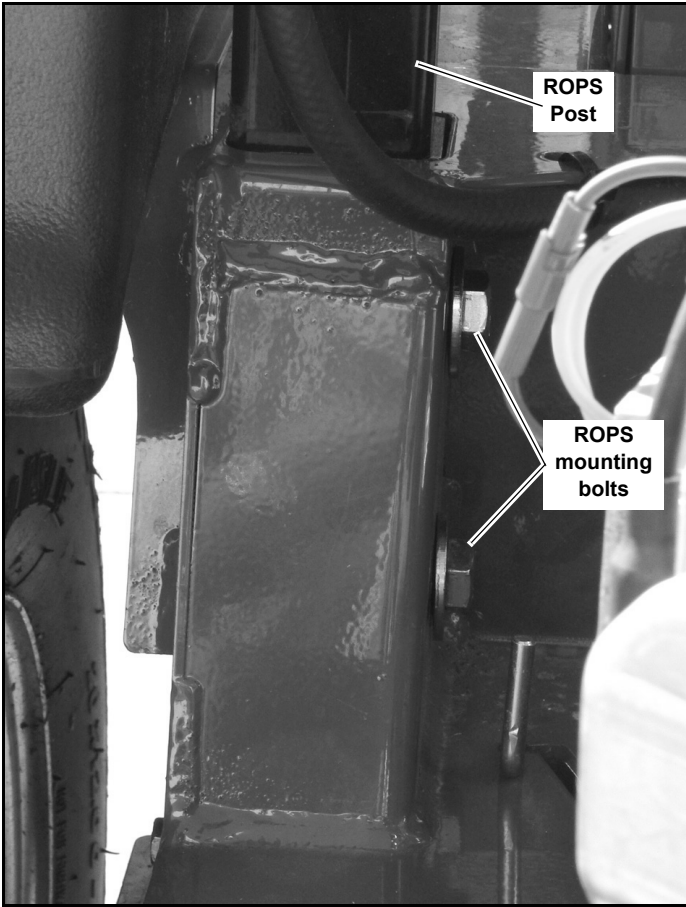

Figure 3-8
1. Check the torque of the ROPS mounting bolts. Tighten the bolts to the correct torque as shown below if necessary. Figure 3-8